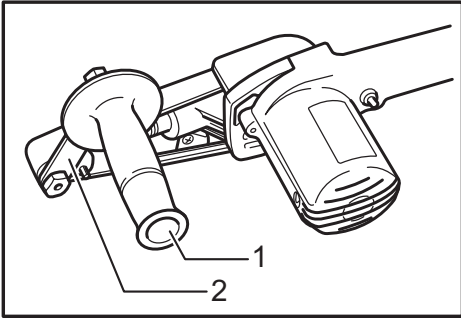

Fig.2
► **Fig.2:** 1. Side grip 2. Grip holder